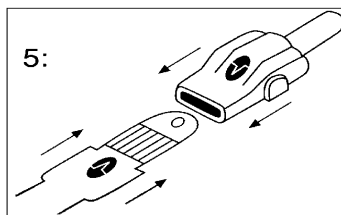

Fig. 35 Connecting patient cable and sensor
3. The connector tab is now oriented on the top side of the patient's finger so that the "shiny" contacts are facing up. Mate the logo on the sensor to the logo on the patient cable. Insert the patient cable into the sensor tab until there is a tactile or audible click of connection (Fig. 35). Gently tug on the connectors to ensure a positive contact. If required, tape may be used to secure the cable to the patient.